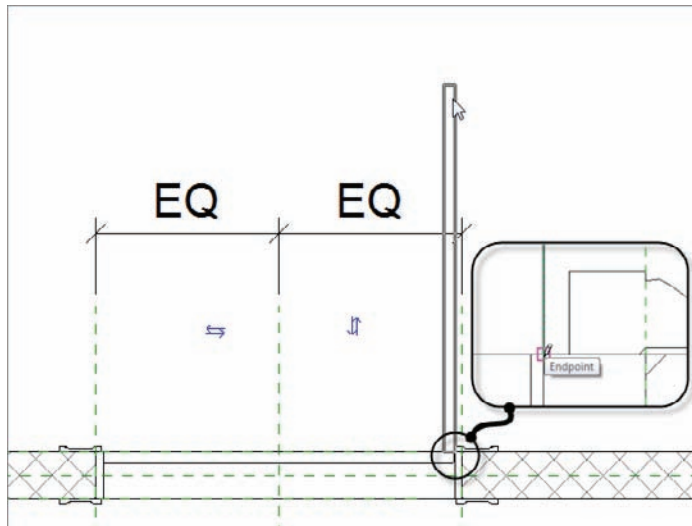

FIGURE 17.27 Drawing the symbolic door swing
2. Draw a line straight up from the right corner of the jamb (on the exterior side of the wall) 4'-0" (1200mm), as shown in Figure 17.27.
5. Draw another line to the right 1 3/8" (35mm) (see Figure 17.27).